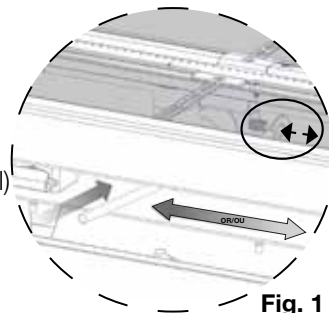

Fig. 1
- ☐ 2. Disengage the air shutter adjustment rod by pushing the smaller end of the rod to the left or right (depending on model) then push towards the back of the appliance until the rod clears the rubber grommet **(Fig. 1). The rubber grommet must stay in place.**